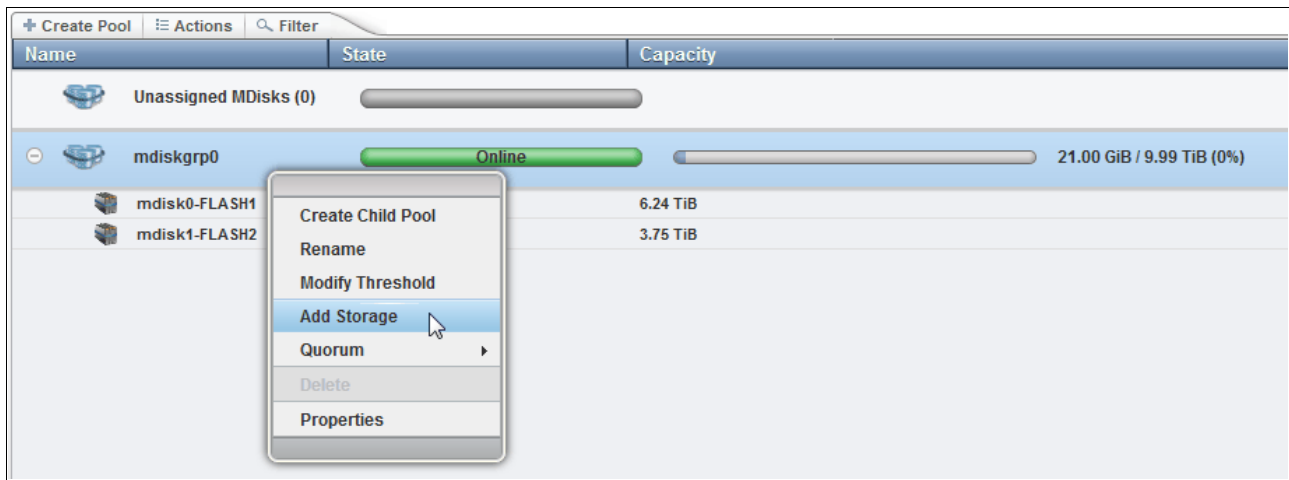

Figure 5-46 Add storage to the MDisk pool
- Assign the new disks to the MDisk pool `mdiskgrp0`. Right-click the storage pool and click **Add Storage** (Figure 5-46).